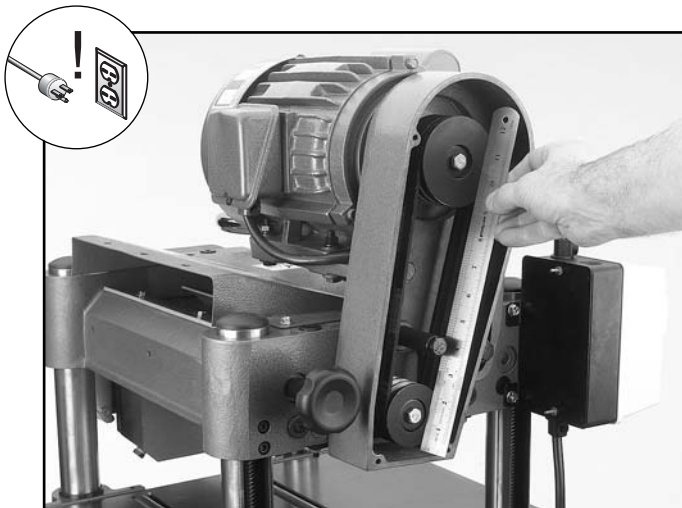

Figure 19. Checking pulley alignment.
4. Adjust the position of the motor until the pulleys are in line, and check the alignment with a straightedge as shown in **Figure 19**.
3. Loosen the two bolts that hold the motor pulley assembly to the planer (**Figure 19**).